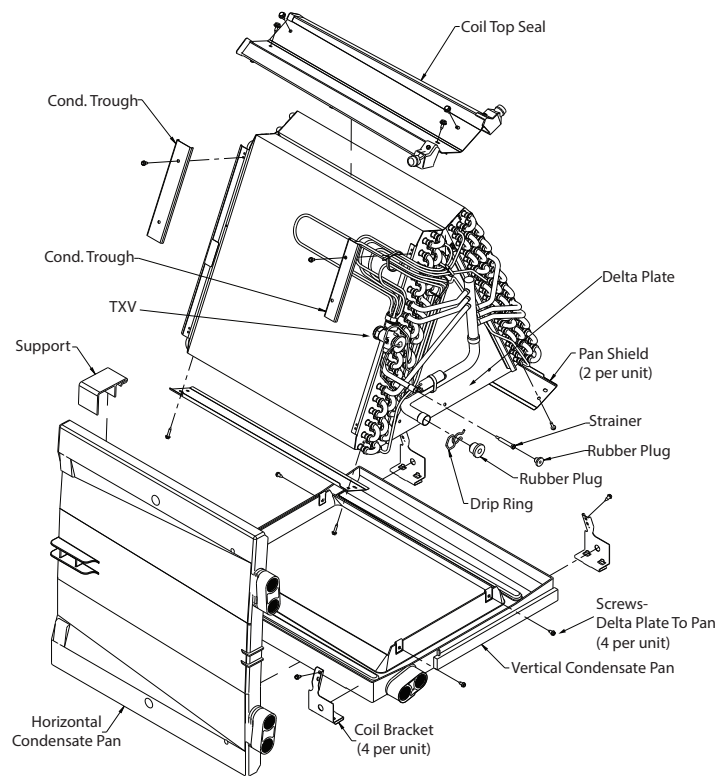

Fig. 23 - A-Coil Component Location
8. Remove horizontal condensate drain pan from coil (if present) and condensate pan assembly. (See Fig. 23.)
9. Remove 4 coil brackets if present. (See Fig. 23.)
10. Remove screws at delta plates and remove coil from vertical condensate drain pan. (See Fig. 23.)
11. **Horizontal Applications Only**—Remove drain connections and J-shaped tube from original coil, and install them in same position on new coil. (See Fig. 23.)
12. Place coil assembly in plastic condensate pan and secure with 4 screws through delta plate. (See Fig. 23.)
13. **Horizontal and Upflow Applications Only**—Attach 4 coil brackets to coil and pan assembly. (See Fig. 23.)
17. **Horizontal Applications Only**—Reinstall horizontal pan clip and secure with 1 screw. (See Fig. 23.)